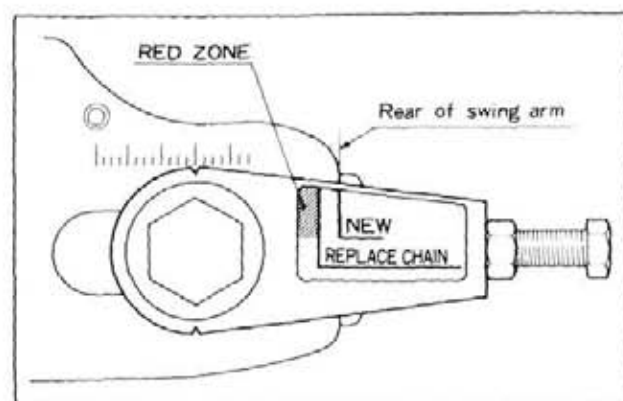

Fig. K7-26
② Foot peg ⑤ Stopper bolt
③ Rear brake pedalFig. K7-29 ① Punch mark
② Switch housing
③ Aligning mark on holder
7. Adjust the chain tension properly. Attach a new label to the left drive chain adjuster so that the right side end of the green zone aligns with the rear of the swing arm as shown in Fig. K7-26.